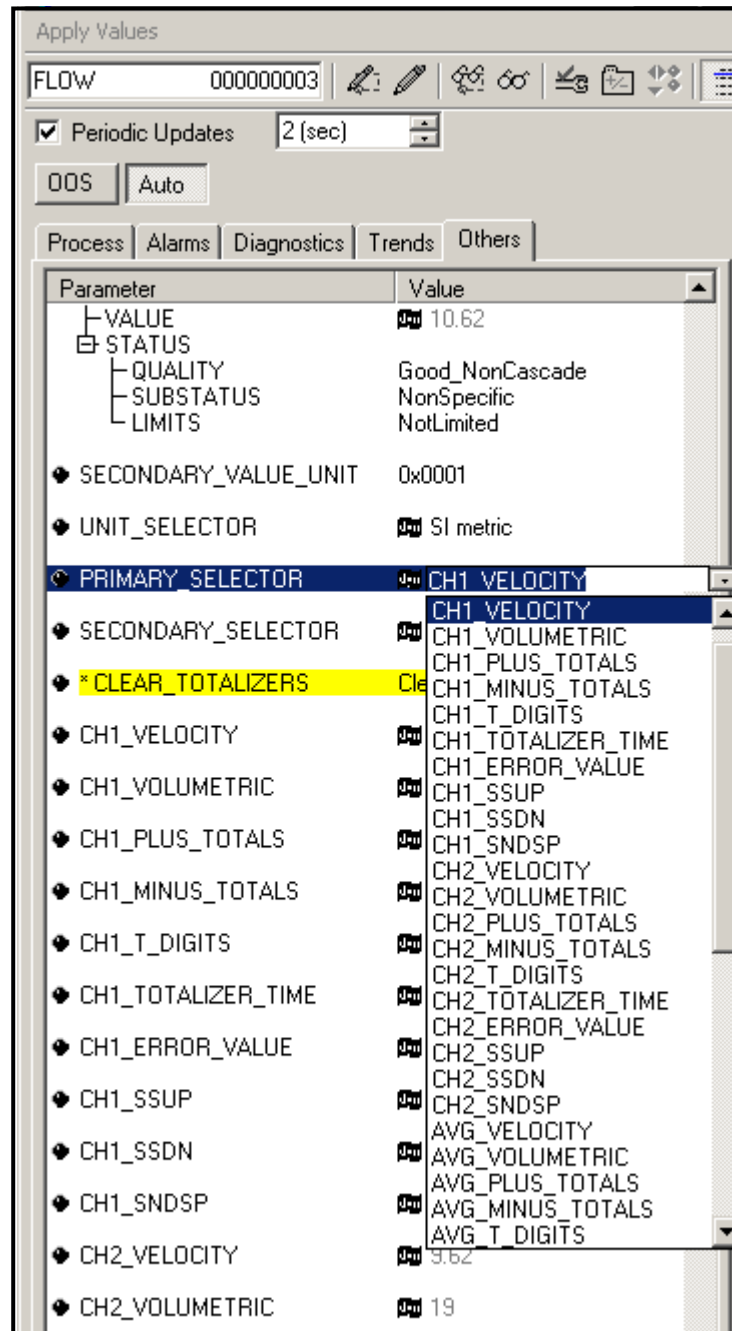

Figure 59: Primary Selector Drop Down List
2. Select the **Others** tab and open the drop down list for the **PRIMARY_SELECTOR** and **SECONDARY_SELECTOR** (refer to Figure 59 on page 143).
3. Choose the unit from the list (see Figure 59 on page 143).